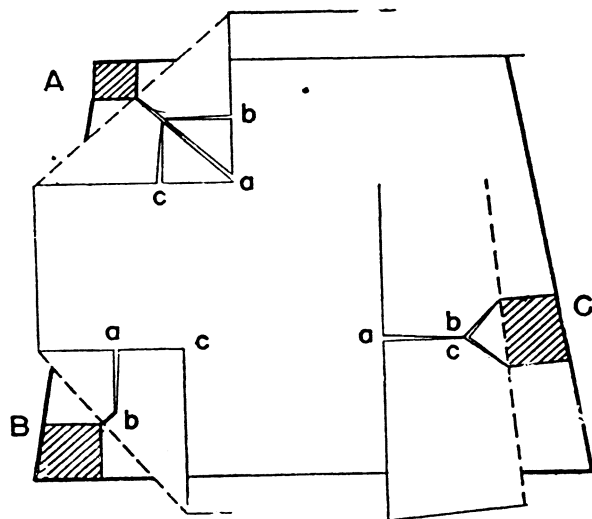

Fig. 27 Methods of Cutting Fabric at Posts
A. When material is cut to one corner of a post and it fitted the same way on two sides of the post; pull the material as tight as it will be when the work is completed. Find the point where it meets the inner corner of the post at the level of the seat, and mark this point with pencil or pin. Fold back the corner of the material as shown. (Figure 27.)
diagonal cut (b) to meet the corner of the post. (Figure 27)
C. When the material is cut to fit around two corners: fold the material back close to post. Make cut (a), on the grain leading to the center of the post, to within 1½ inches of the post at seat level; then make the two diagonal cuts (b) and (c) to each corner of the post at the seat level. (Figure 27)